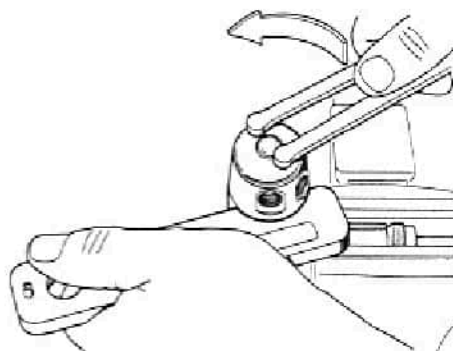

Fig. 4 - Alternate Removal Procedure
△ NOTE: If the piston cap(29) begins to turn with the swivel retainer, it will be necessary to hold the piston cap secure with the No. 4 Spanner while turning the swivel retainer with a separate Quad Spanner or Adjustable Face Spanner (P/N 1073-94). (See Fig. 4.)
18. While holding the first stage body secure with one hand to prevent it from turning in the vise, firmly grasp the swivel cap(31) and lift it straight off the stem of the piston cap.